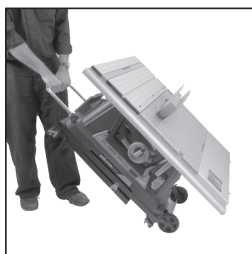

FIG. 10
4. Lift the handle and allow the machines integral transportation wheels to touch the ground. (Fig.10)